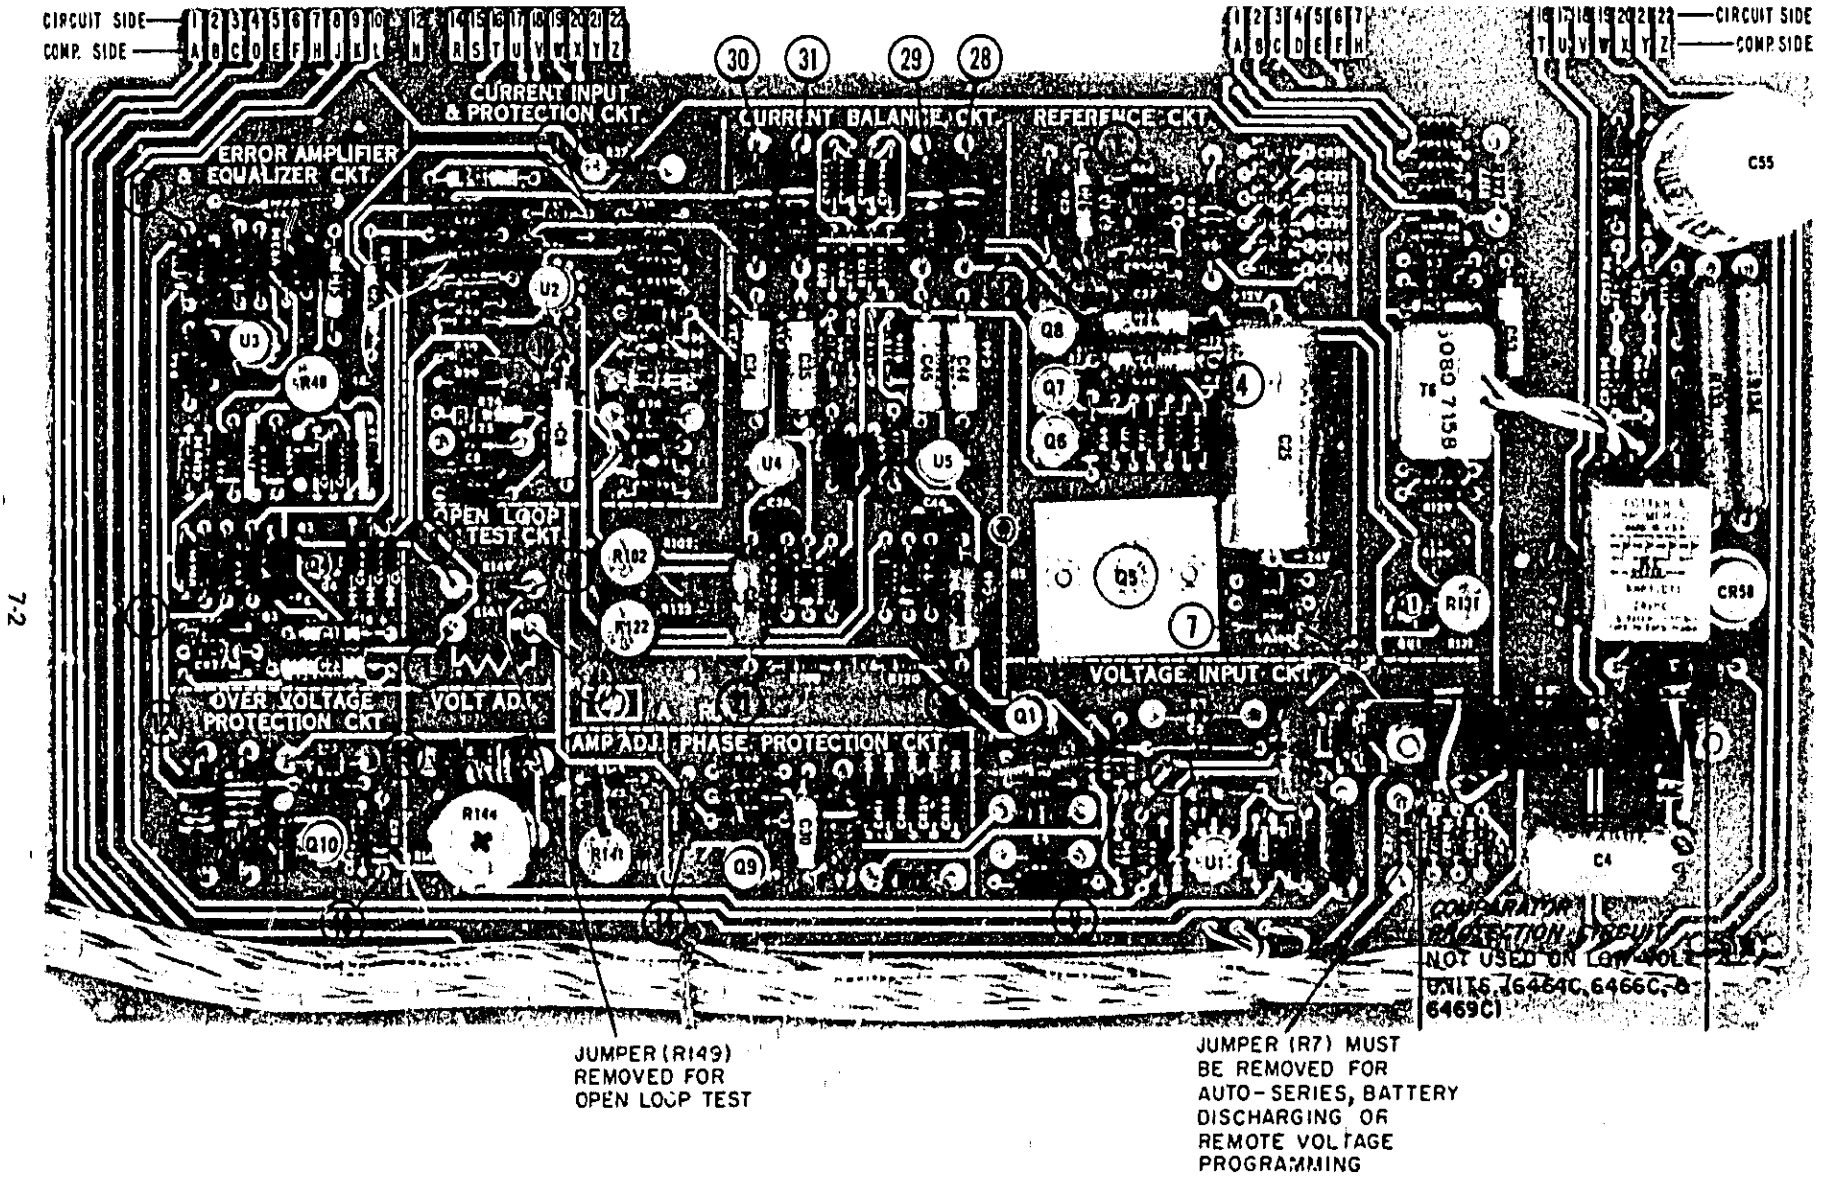

Figure 7-1. A1 Amplifier Board, Component Location
a. Component location photographs (Figures 7-1 through 7-5), showing the physical location and reference designators of parts mounted on the printed circuit boards and chassis.